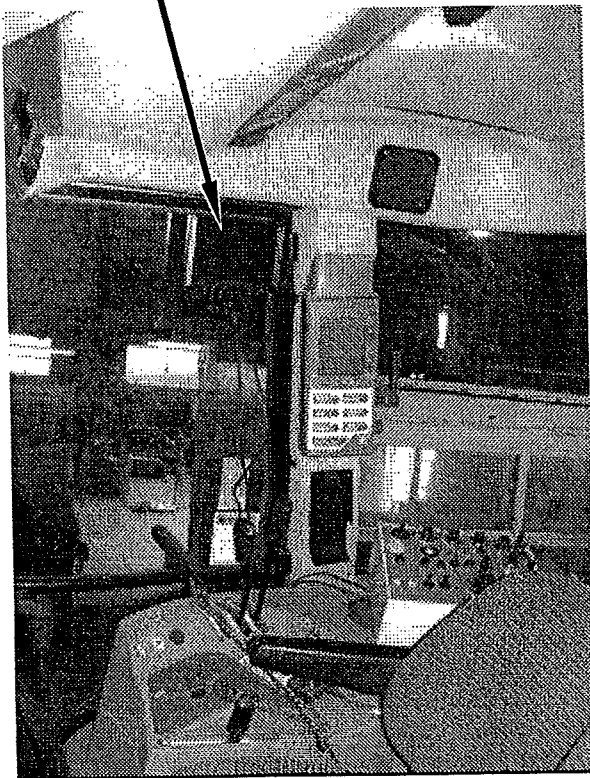

Fig 10.15
Fig 10.14 shows the camera mag-mounted on the side of the starflow unit, while Fig 10.15 item 1 shows a typical mounting of the monitor inside a tractor cab.